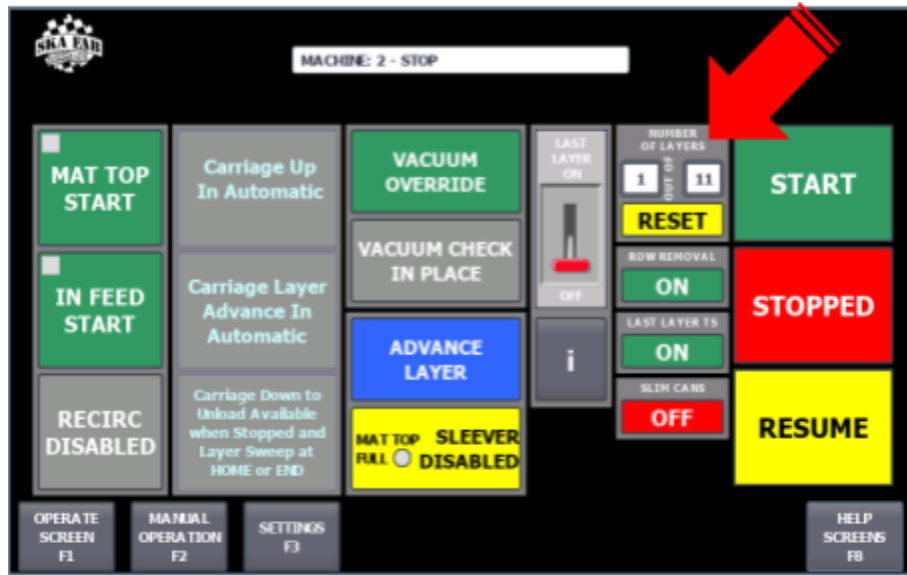

Fig. 19: HMI Screen – NUMBER OF LAYERS Textbox
12. Repeat this process until the pallet reaches the desired number of layers, which can be set on the Operate Screen in the NUMBER OF LAYERS textbox (Fig. 19).